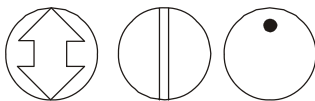

Figure 7: Damper Position Icons
- Check that the damper blade is accessible or that its position is permanently marked on the end of the damper shaft as illustrated in Figure 7.